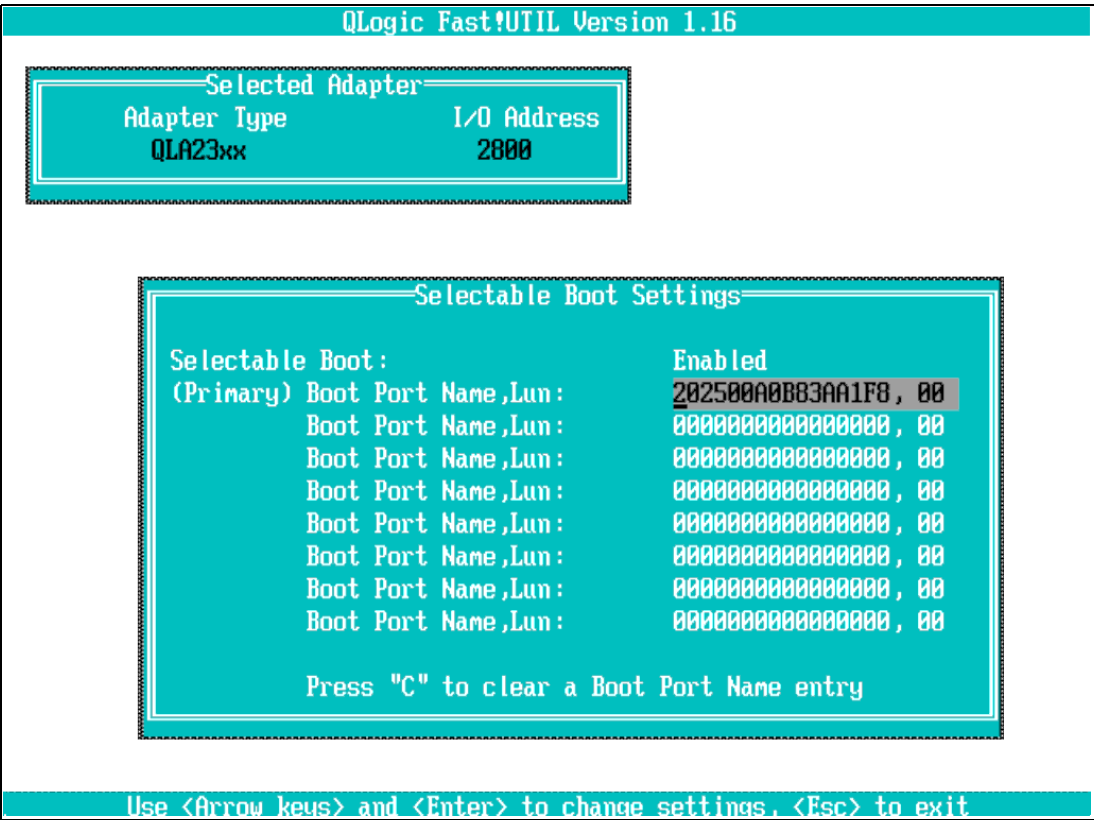

Figure 27-39 Selectable Boot Settings for second HBA
- b. Move the cursor to (Primary) Boot Port Name, Lun field and press Enter. Now select the DS3400 Controller B entry as the boot device. The Controller B FC host port WWN should appear and the LUN should be 0 (see Figure 27-39 on page 705).